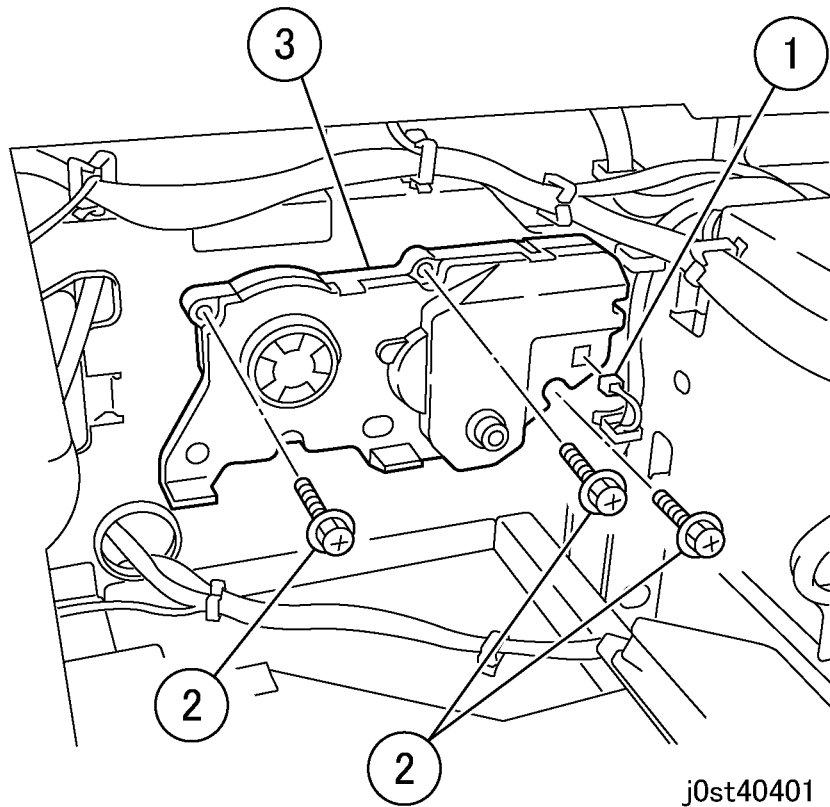

Figure 4 Removing the Dispense Motor (j0st40401)
5. Remove the Dispense Motor. (Figure 4)